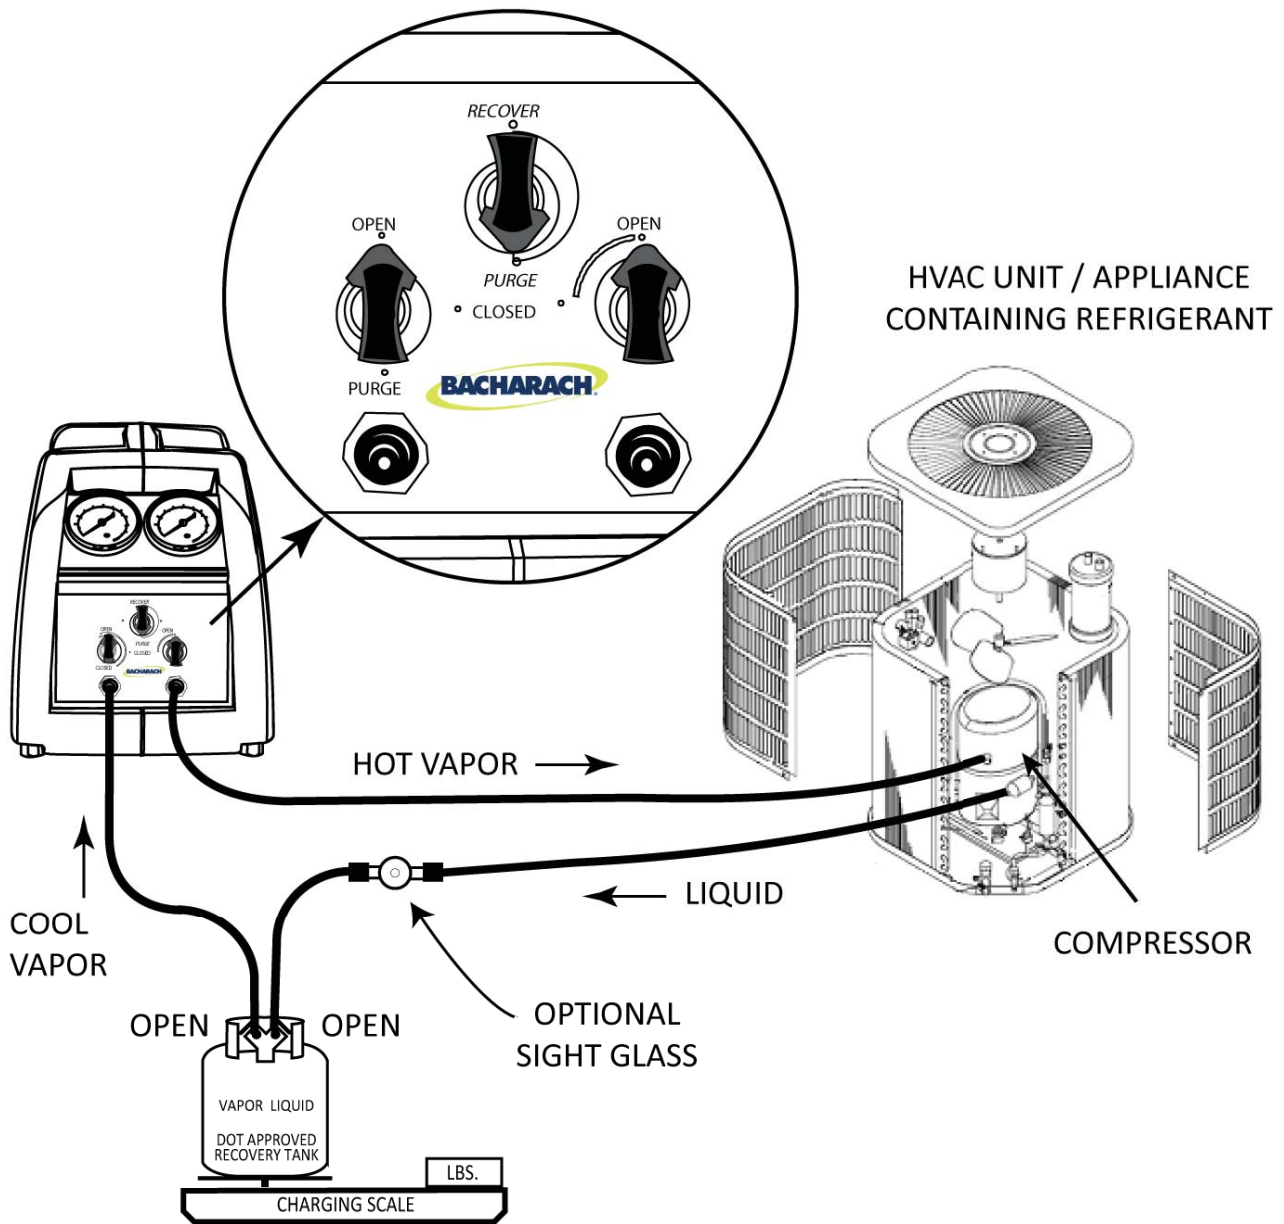

Figure 4. Liquid Push/Pull Recovery Operation
2. Make proper hose connections for liquid push-pull recovery as shown in Figure 4.